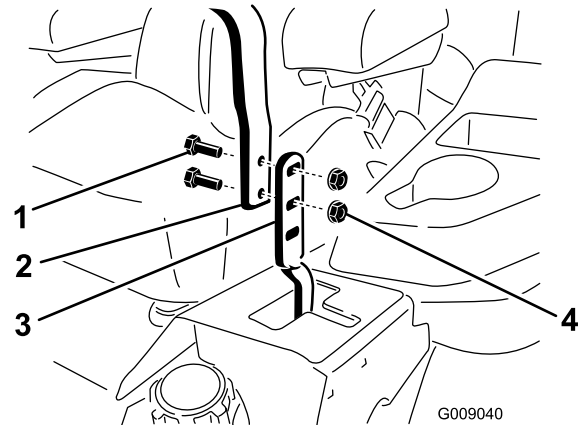

Figure 78
3. Loosen the bolts and flange nuts installed in the levers (Figure 78).